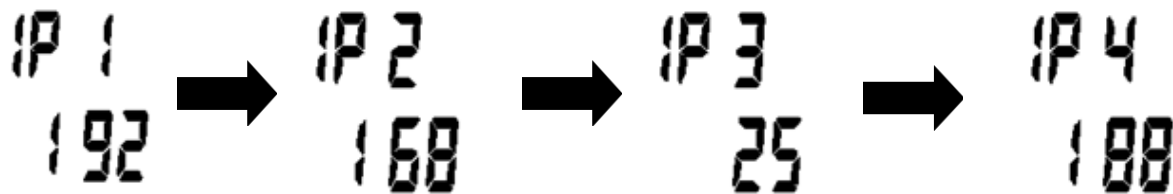

Figure 14 - Display of RF542 IP Address
3. Plug in the RF525, the LCD will first display the current IP address of the RF542 which needs to be noted down for the next step. In the example in Figure 14 below the IP address would be 192.168.25.188. If the RF542 IP address is 0.0.0.0 this means the network has not issued an IP address yet, remove the RF525 and try again. If you missed some of the sequence, remove the RF525 and try again.